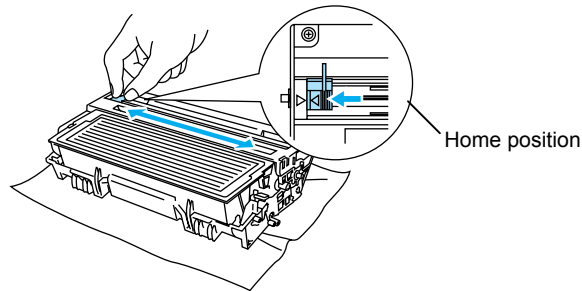

Fig. 5-13
- Make sure that the wire cleaner on the drum unit is returned to the home position (▲ mark position) before re-installing the drum unit into the printer, or printed pages may have vertical stripes. (Refer to Fig. 5-13.)